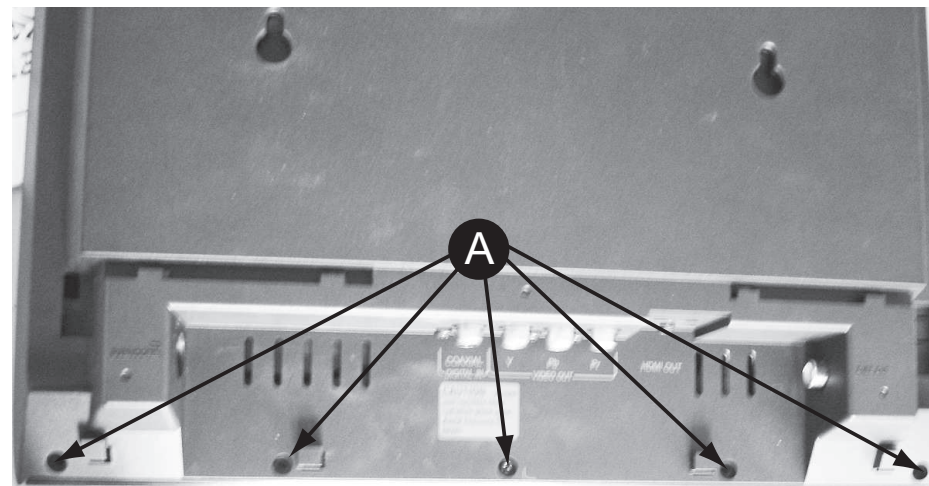
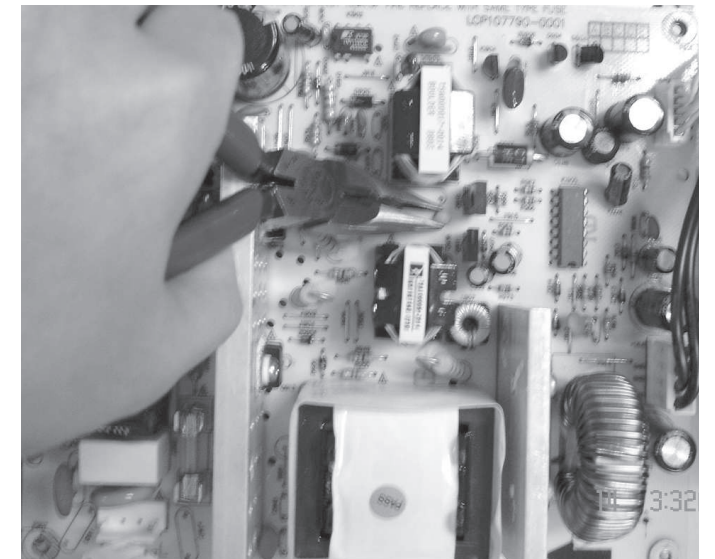

Figure 2
Figure 3
- 2) Loosen 5 screws "A" at the back panel as shown in figure 2, and pull the front panel to remove it as shown in figure 3.
2) With a pincers to nip this space as shown in figure 3 and to take up the power board.